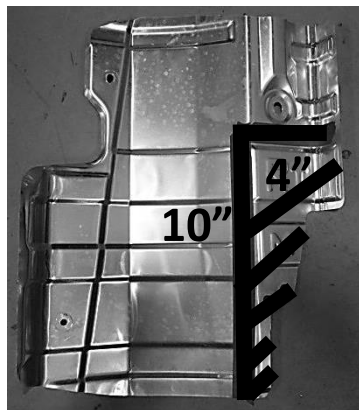

Figure 3
- 1. Remove Appearance Panels** – Using a flat head screw driver remove (7) push pins each side (bottom (3), wheel well (2), exhaust side (2)) to remove the appearance panels.
- 2. Lower Muffler** – Using the exhaust removal pliers, lower muffler by removing the (4) rearmost rubber hangers, (2) hangers per side and (1) in the middle of the car. **Note:** A spray of lubricant on rubber hangers makes them slide off metal pins more easily. **Note:** Support the exhaust before removing rubber hangers.
- 3. Remove and Trim Heat Shield** - Using a 10mm socket remove (4) nuts per side. Using tin snips trim the heat shield (each one), 10" x 4" as seen in figure 3 exposing the frame and attachment holes. **Note:** Do not raise the heat shield into place until the fasteners have been installed into the frame.